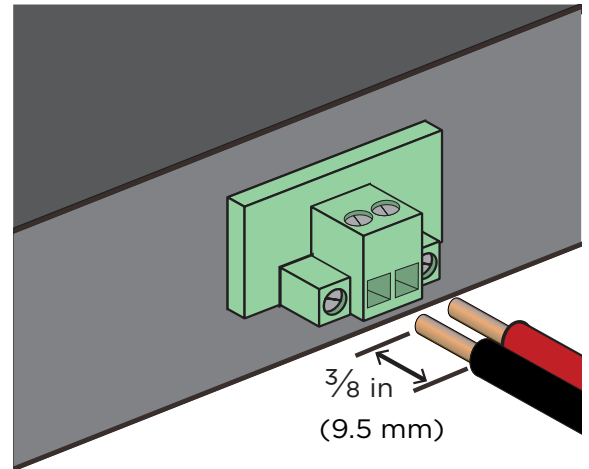

Figure 8.
3. Slide wires into connector as shown in Figure 8.
4. Twist each screw on the top of the connector clockwise (CW) until the silver crimps tighten around each wire. Tug on wire a bit to verify they are secure. See Figure 8.